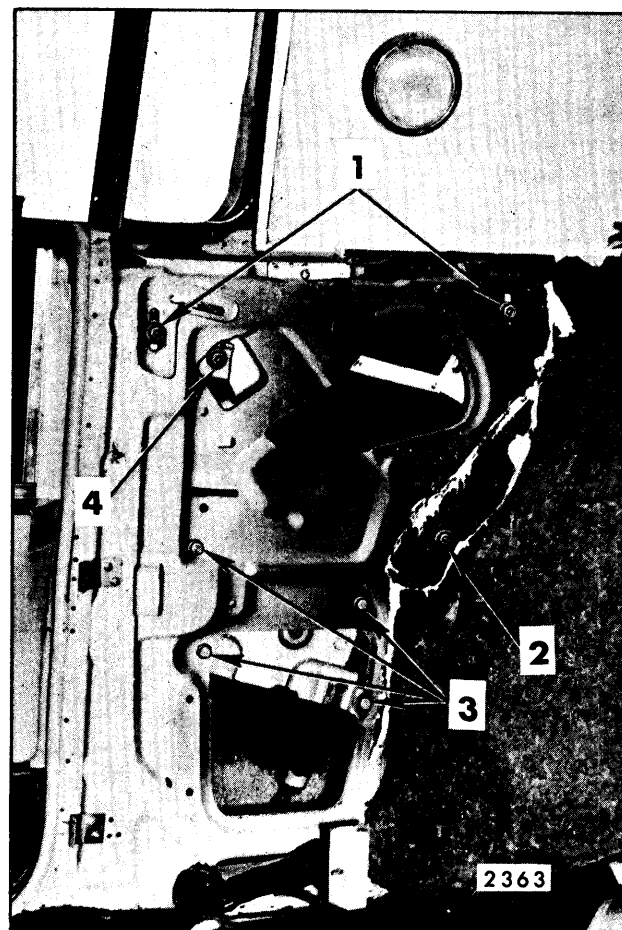

Fig. 7-52—Rear Quarter Hardware - "E-47" Style
3. Remove run channel rear attachment (on inner panel (see Fig. 7-52) and forward attachment, under lock pillar grille.